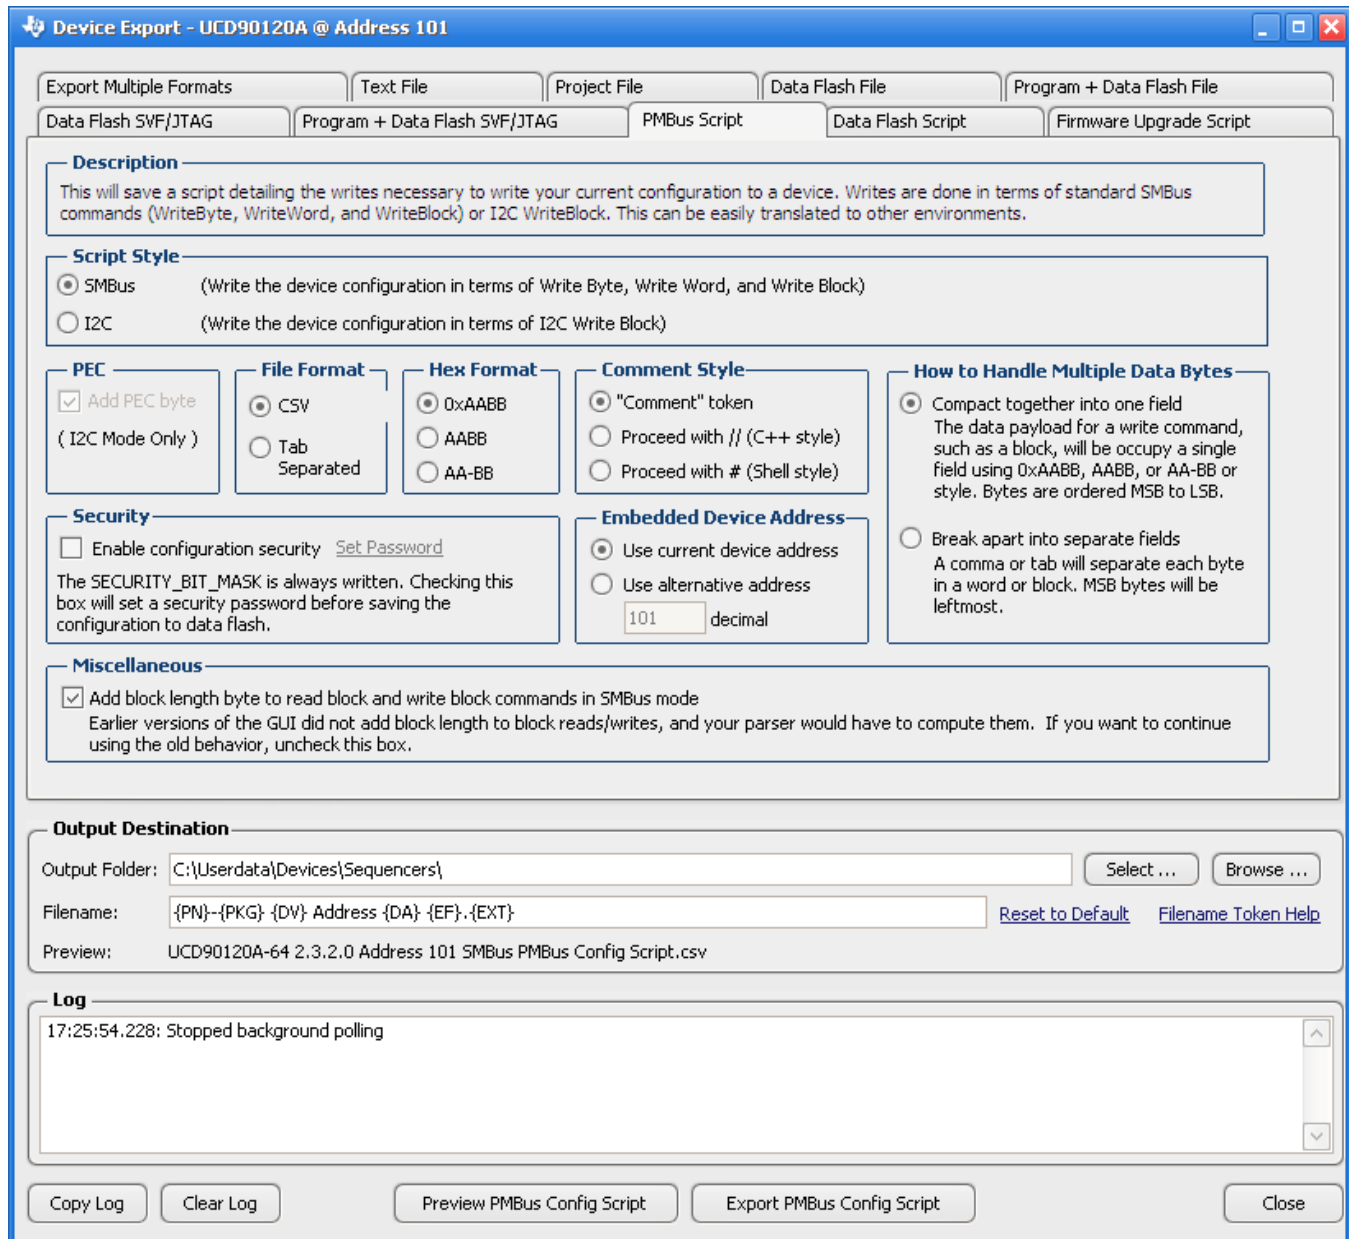

Figure 30. Fusion GUI PMBus Configuration Script Export Tool
2. The *Fusion GUI* (Figure 30) can create a PMBus or I²C command script file that can be used by the I²C master to configure the device. This method may cause unexpected behaviors on GPIO pins which can disable rails that provide power to device. It is not recommended for production programming.